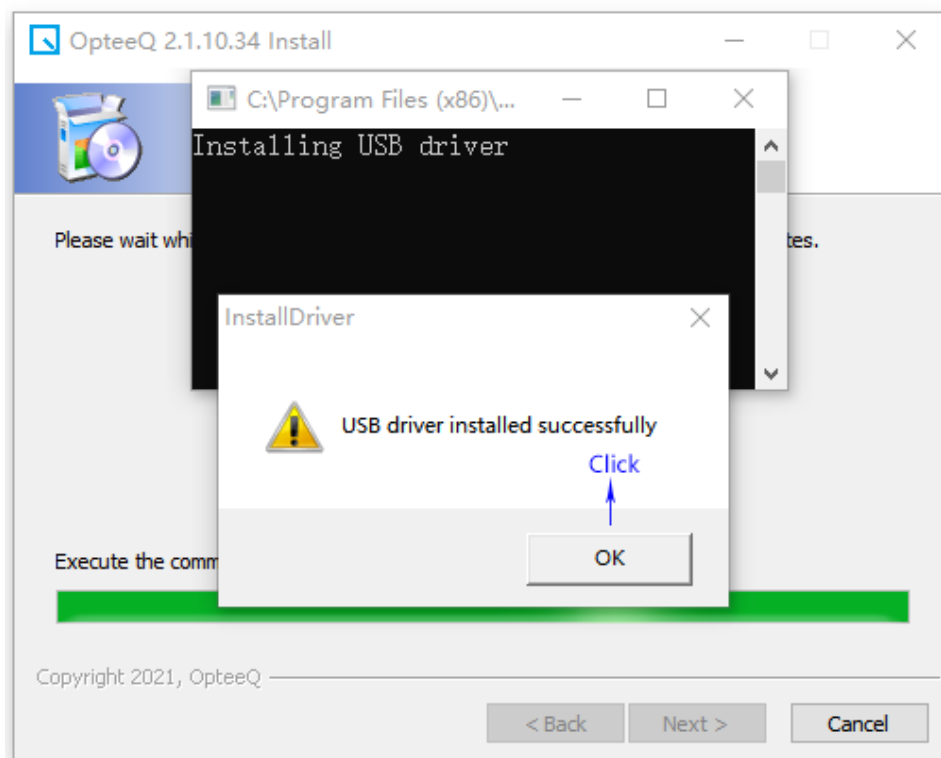

Figure 1.9: Step 9
Step 9: Click "OK" in the pop-up interface, as shown in Figure 1.9.